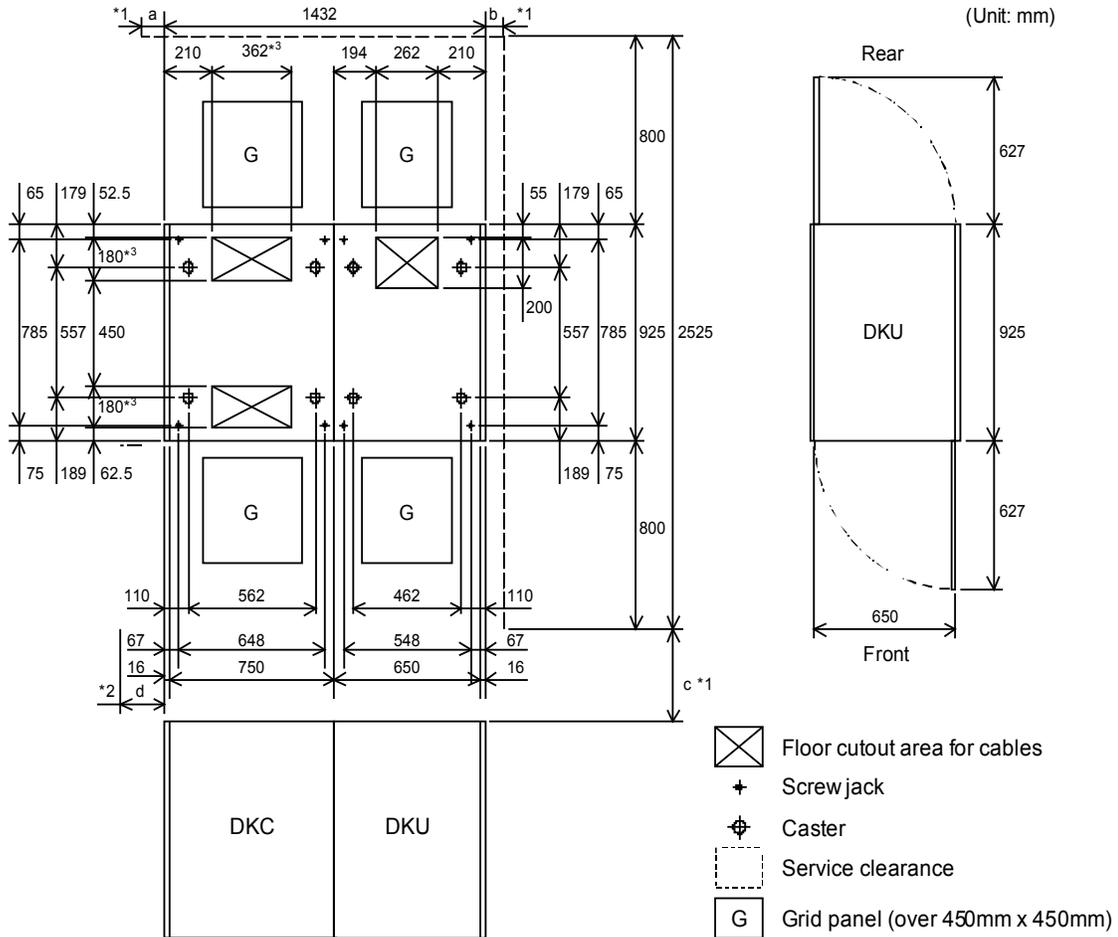

Figure 4.4 Service Clearance and Floor Cutouts for Two Frames
- Figure 4.4 shows the service clearance and floor cutouts for two frames (one DKC, one DKU). shows the floor load rating requirements for this configuration.